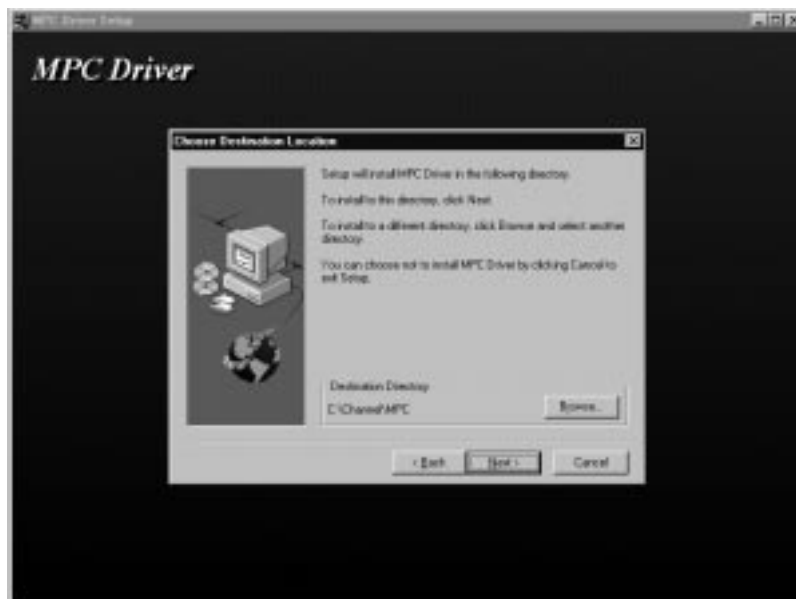

Figure 5-4. Choose Destination Location
- The Choose Destination Location dialog box will display showing the target installation directory (Figure 5-4). Unless you have a specific reason for changing the directory you should allow it to default to “C:\CHANNEL\MPC”. Click **N**ext to continue the install. Progress bars will display while the MPC+ driver is copied to the Netfinity’s hard drive (Figure 5-5).